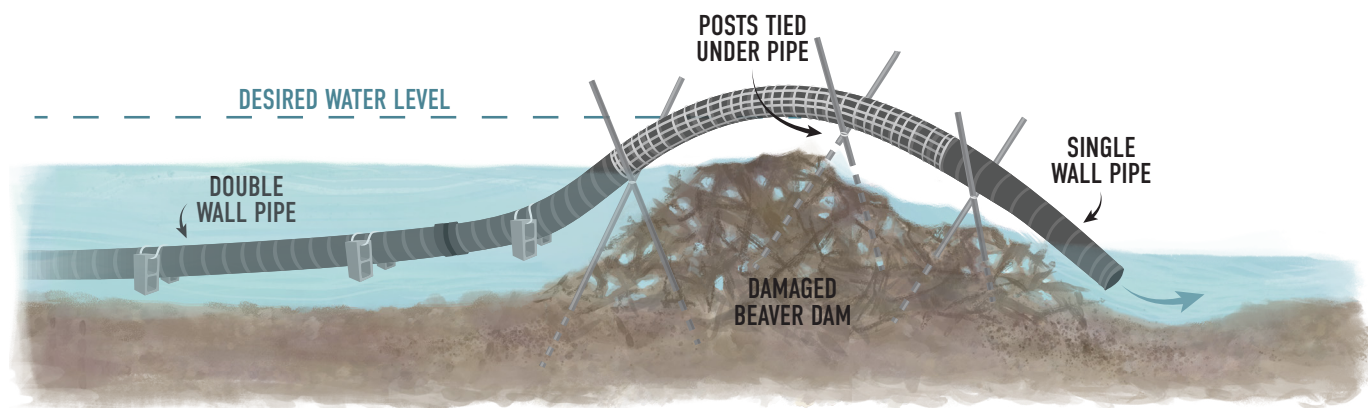

Figure 7. Installing or adjusting pond leveler to account for dam damage.
13. Position the single wall plastic culvert pipe at the desired maximum dam elevation and secure suspended in place with steel posts directly over the dam crest (Figure 7). Fasten the pipe to the steel posts using a minimum wire thickness of 9-gauge.